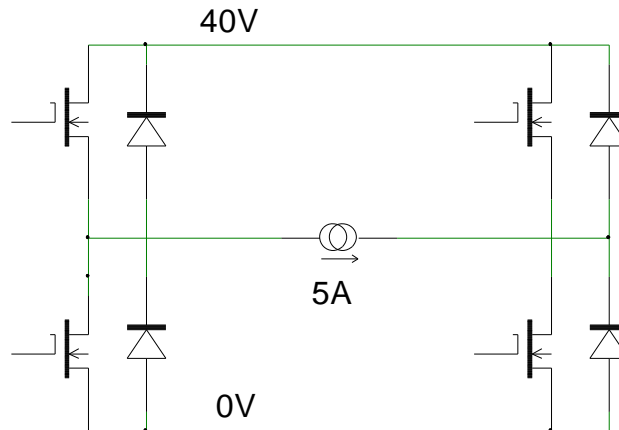

Figure 1. H-bridge inverter
3. a. Derive an expression for the switching loss within a semiconductor switching device operating at a frequency 'f' with an inductive load. (8)
- b. Four MOSFET switching devices with parallel Schottky diodes are used in a H-bridge inverter configuration (as shown below in figure 1) to provide a near-constant 5A DC in the load. The inverter is to operate at 40kHz and the devices have the parameters given below: